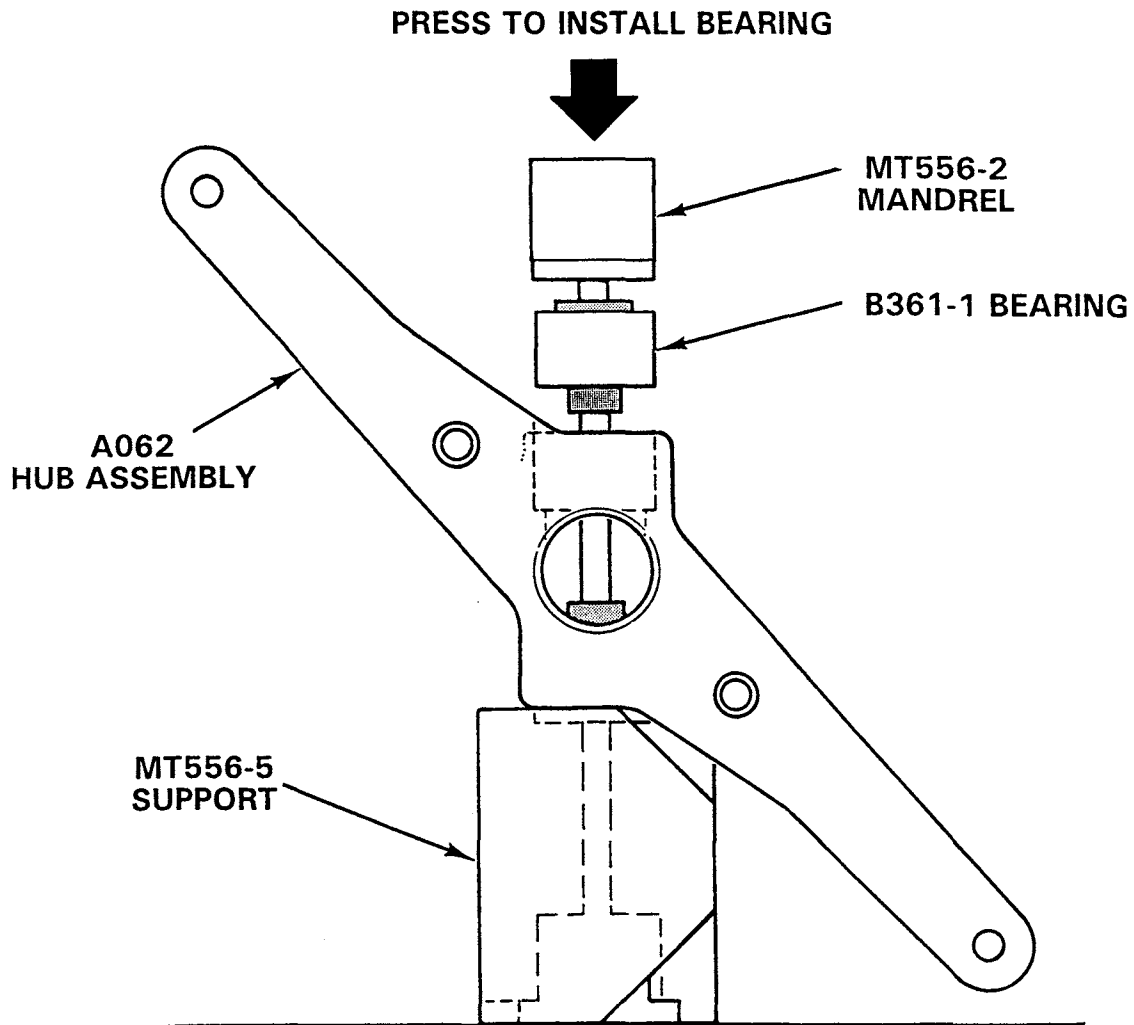

FIGURE 9-13D ELASTOMERIC BEARING INSTALLATION
5. Coat bottom of bearing bore with Section 1.450-approved primer. While primer is still wet, press bearing fully into hub using special tool MT556 per Figure 9-13D.